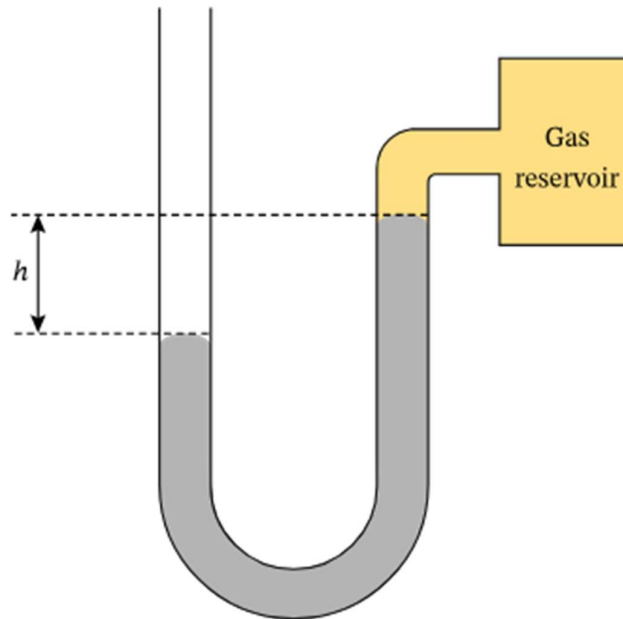

Figure 1.2: An open-ended manometer
- (b) Figure 1.2 below shows a liquid column manometer connected at one end to a gas reservoir and at the opposite end to the atmosphere. The U-shaped tube contains mercury that has a density of 13595 kg/m^3 . The top of the mercury column in contact with the atmosphere is vertically below the top of the mercury column in contact with the gas reservoir. The vertical distance between the column tops is $h = 25 \text{ cm}$. Find the pressure of the gas in the reservoir, p_2 . Use a value of $p_1 = 101.3 \text{ kPa}$ for atmospheric pressure.